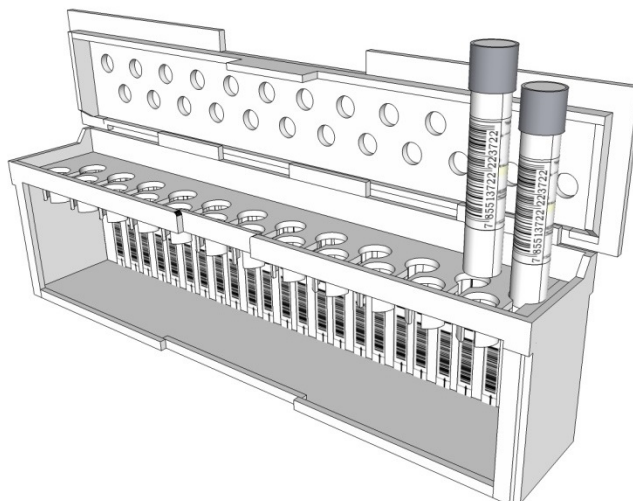

Figure 5-3: LOADING SAMPLES
5.4.1.1. Ensure that the sample tubes are inserted into the rack such that the barcodes are centered in the window and visible to the operator (See Figure 5-3).